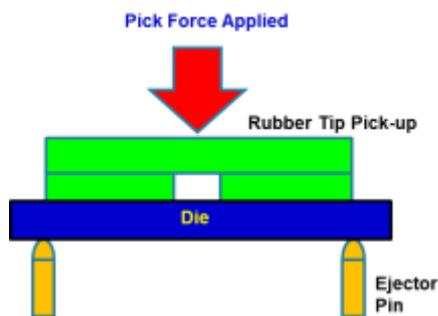

Fig. 1. Schematic of ejector pin and silicon die.
- During the die attach process in the assembly of a semiconductor package, the die is ejected from an adhesive carrier and picked by a pick and place (PnP) tool's rubber tip as shown in Fig. 1.